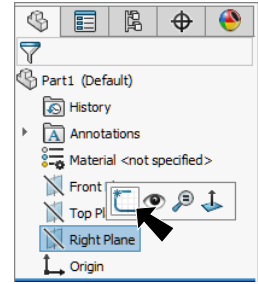

Fig. 1
Step 2. Click **Right Plane** in the Feature Manager and click **Sketch** on the context toolbar, **Fig. 1**.